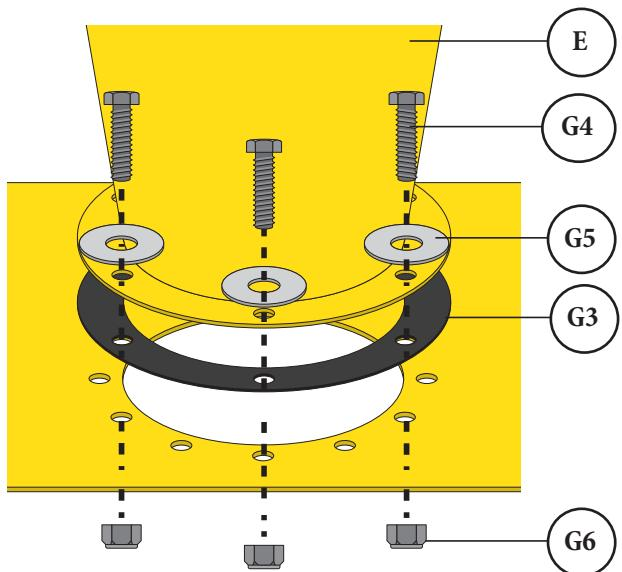

FIG. 15
Place the Flange Gasket (G3) and the Cyclone (E) onto the Wall Bracket (F) and align the hole patterns on all three items. Secure together using six Hex Head Bolts (G4), six Flat Washers (G5), and six Nylock Nuts (G6) [FIG. 15].